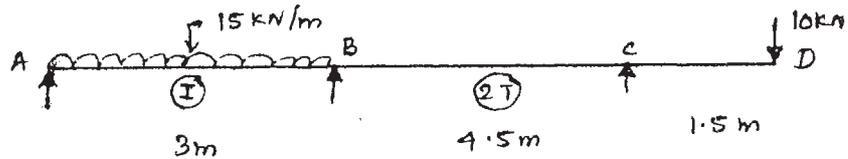

Fig. 2
12. (a) Analyse the continuous beam by flexibility method. (Fig. 2)